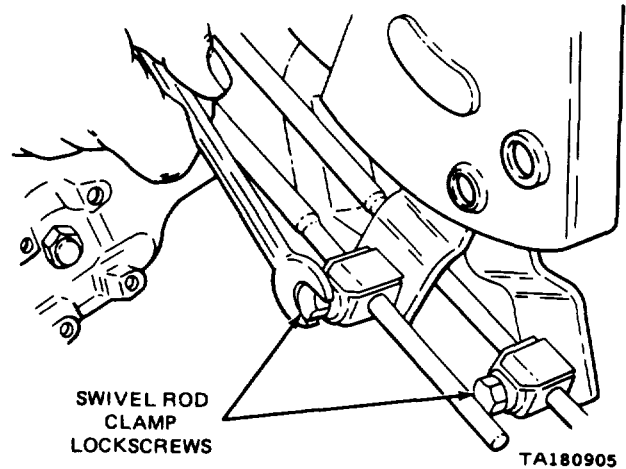

Figure 5-2. Loosening the Lockscrews.
(1) Place the transfer shift lever in HI.
(2) Loosen both swivel rod clamp lock screws at the shifter assembly as shown in figure 5-2. Both rods must be free to slide in the swivels.